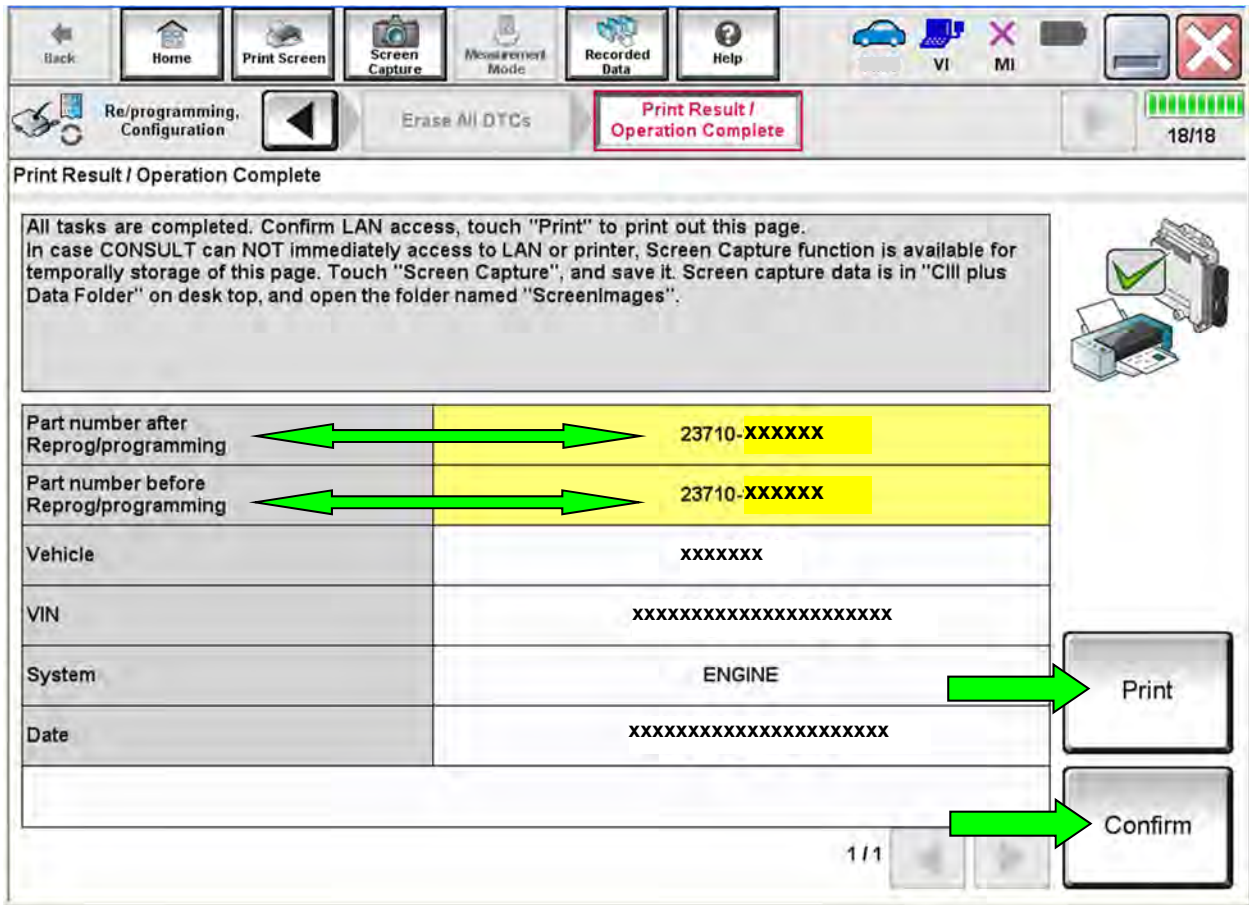

Figure 14
24. When the entire reprogramming process is complete, the screen in Figure 14 will display.